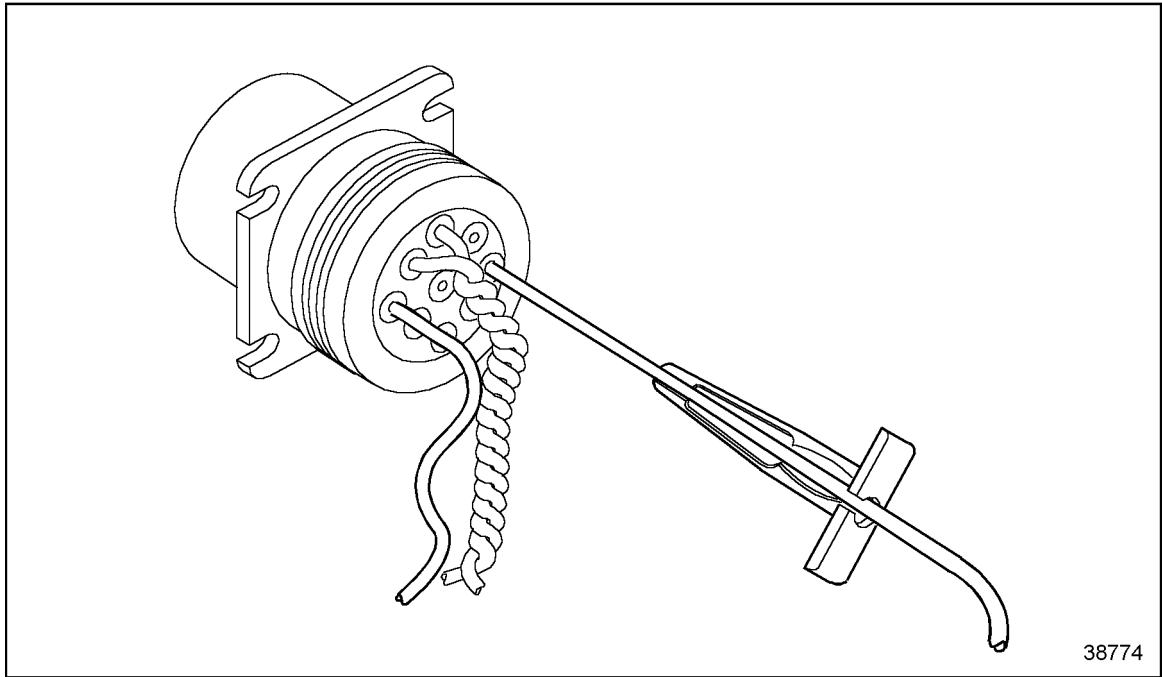

Figure 2-20 **Removal Tool Position**
1. With the rear insert toward you, snap the appropriate size remover tool over the cable of contact to be removed. See Figure 2-20.